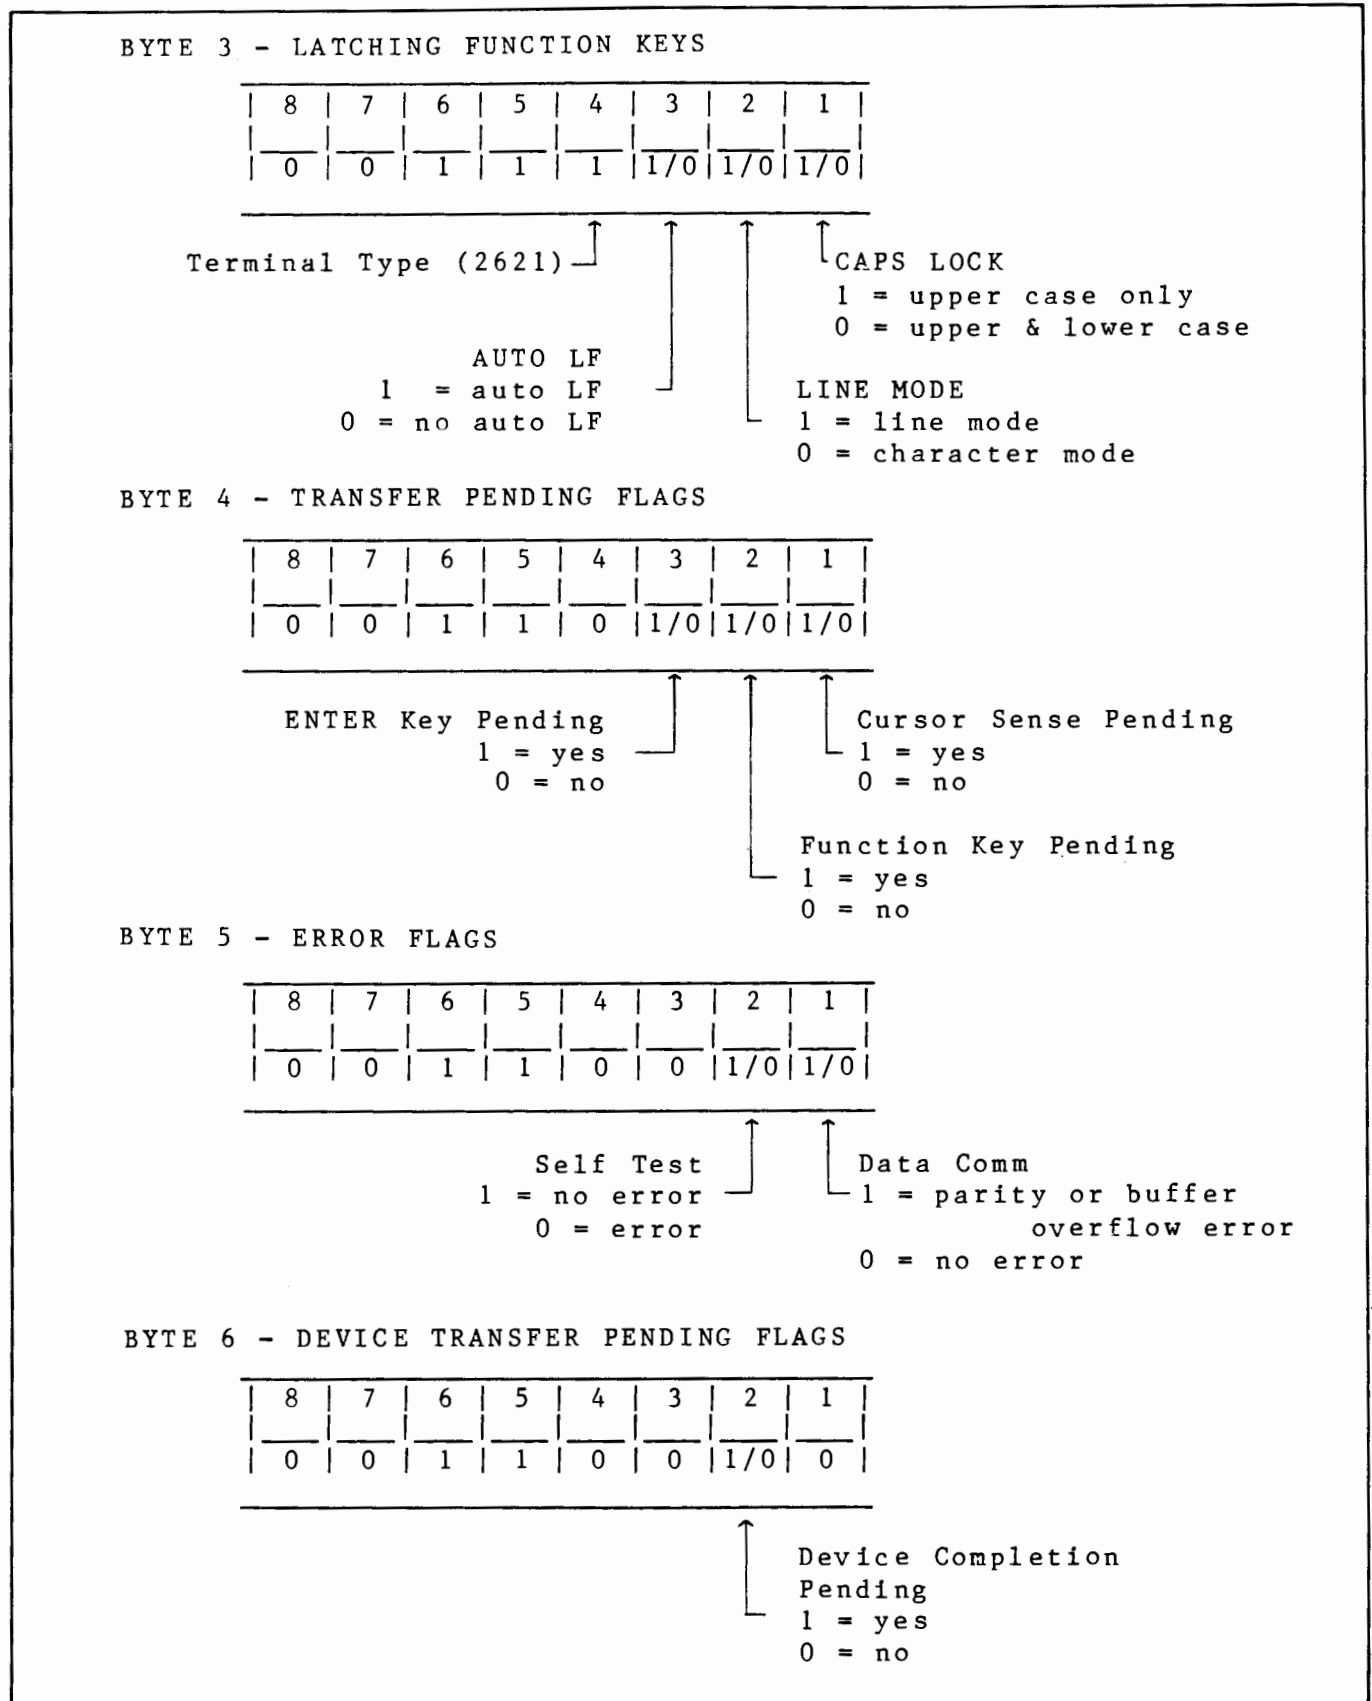

Figure 3-8 Terminal Status Bytes (Continued)
3. Interpret terminal status (test pattern or status response). Make sure that terminal status matches terminal configuration. Figure 3-8 shows how to interpret the terminal status.